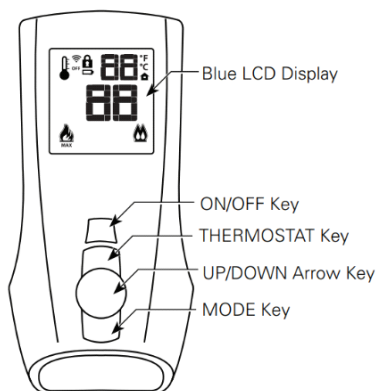
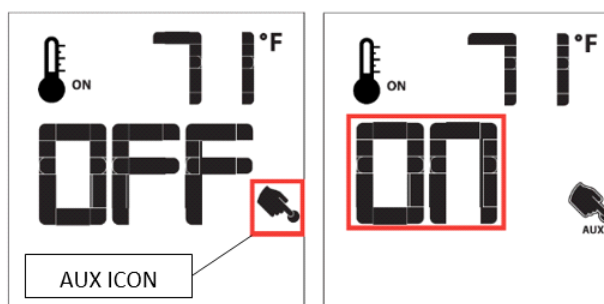
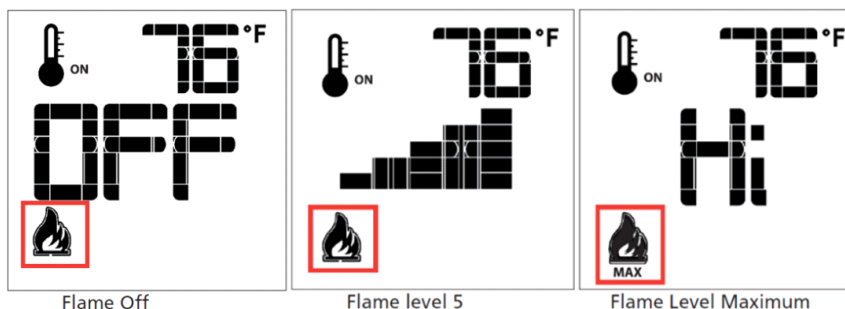
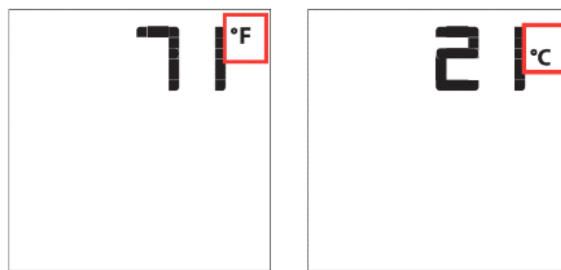

FIGURE 48
FIGURE 49
FIGURE 50
FIGURE 51
Press the **“ON/OFF”** key on the remote (**Figure 48**). A single beep from module will confirm command. Press the **“MODE”** Key until **AUX** icon is visible (**Figure 49**). Press the **“Up Arrow Key”** to turn the **AUX** to **ON** and activate the Meridian Control Panel to power on the fan and damper. Press the **“MODE”** Key until **Flame Level** screen appears (**Figure 50**) then press the **“ON/OFF”** key to turn off system. The fireplace system will now initialize once the remote **“ON”** key is pressed.
The system has six (6) flame levels. See (**Figure 50**) for an example. With the system on, and the flame level at the maximum in the appliance, pressing the **“Down Arrow Key”** once will reduce the flame height by one step until the flame is turned off. The **“Up-Arrow Key”** will increase the flame height each time it is pressed. If the **“Up Arrow Key”** is pressed while the system is on, but the flame is off, the flame will come on in the high position (**Figure 50**). A single “beep” will confirm reception of the command.
With the system in the “OFF” position, press the “**Thermostat**” Key and the “**Mode**” Key at the same time (Figure 48). Look at the LCD screen on the Remote to verify that a °C or °F is visible to the right of the Room Temperature display (Figure 51).